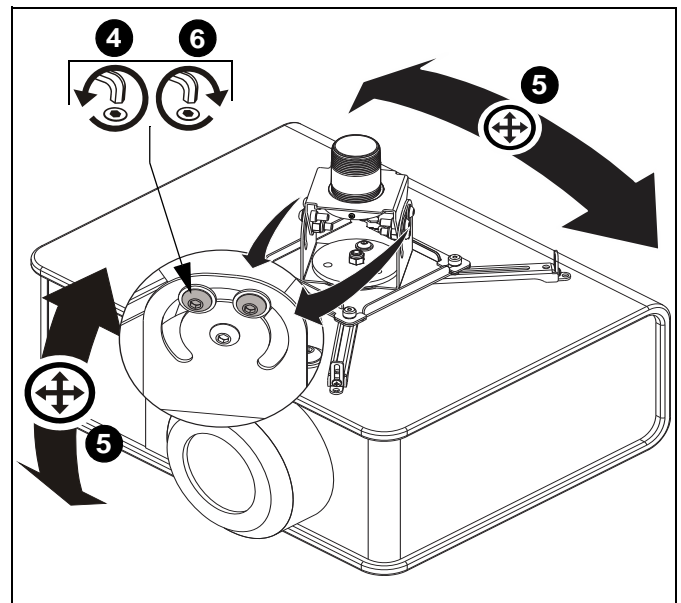

Figure 11
5. Adjust projector angle to desired pitch. (See Figure 11)